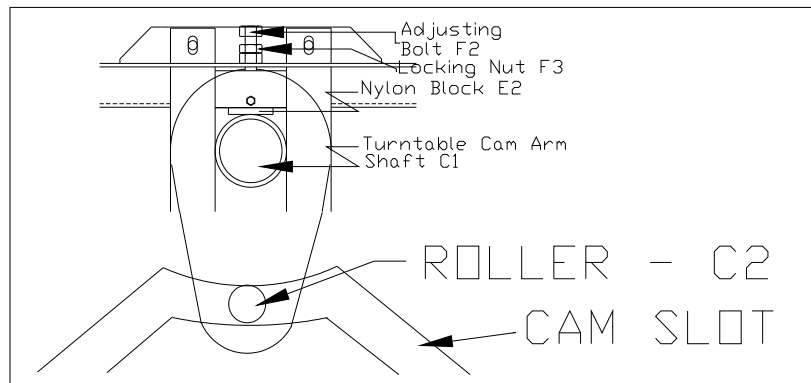

Figure 8
1. The Turntable Cam Arm Roller, {C2} needs to be kept snug against the rear edge of the of the Cam Slot **(Figure 8)**.